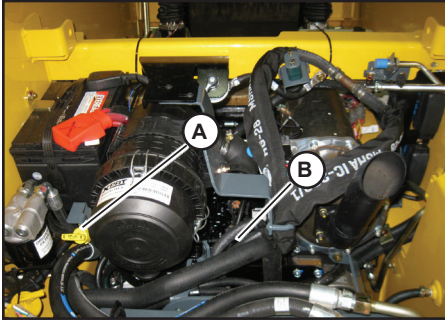

Fig. 81 - Oil Dipstick and Fill Cap
5. Pull out the dipstick (A, Fig. 81) and check the oil level. The oil fill cap (B, Fig. 81) is located nearby.